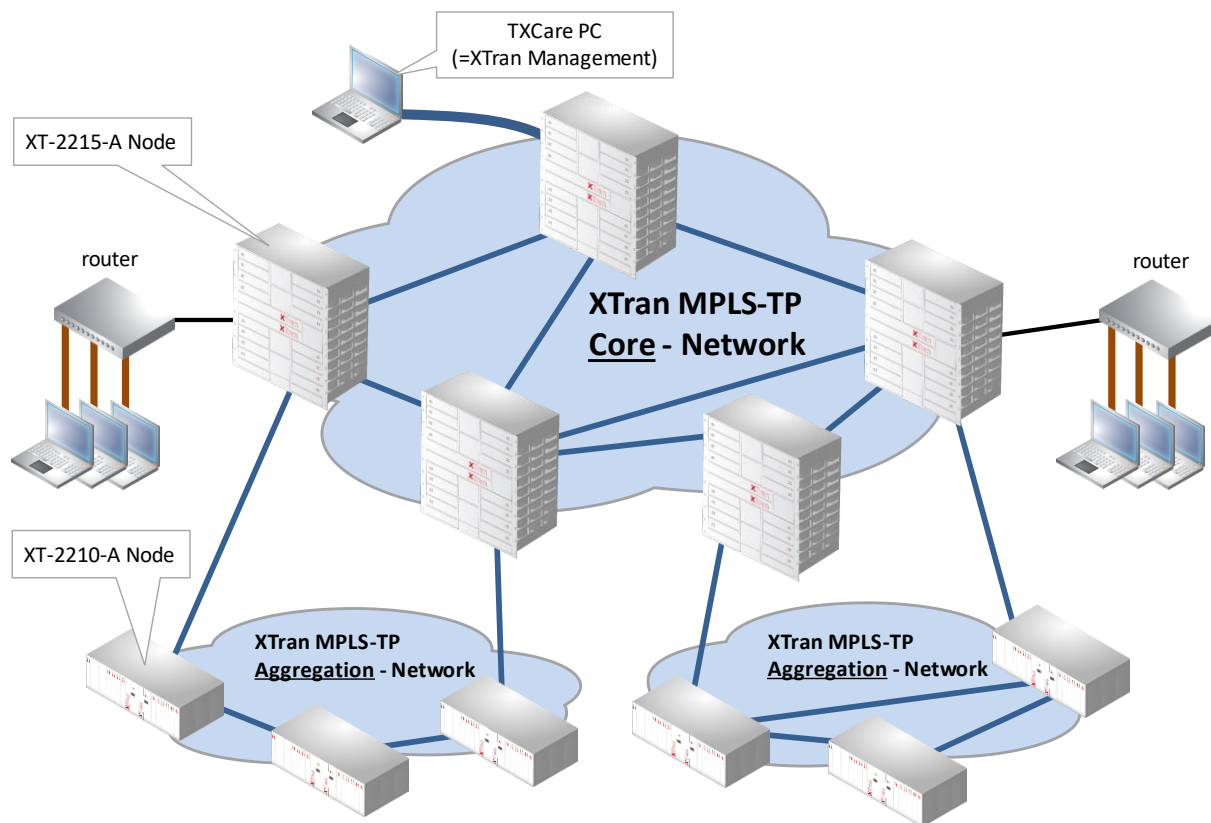

Figure 1 XTran MPLS-TP Network
- Figure 1 XTran MPLS-TP Network 6